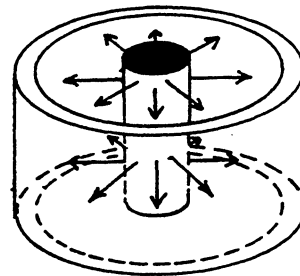

FIG. 1
2. Cut 7" diameter hole in top of cabinet for top connected conductor pipe installation as shown in Figures 1 and 3, or in back of cabinet for back connected conductor pipe installation, as shown in Figures 2 and 3. This hole is for easy connection of the conductor pipe for installation and service.
The inner cylinder of Fig.1 represents the heater and cathode. The outer cylinder represents the anode block and "vanes". Heating the cathode loosens the electron bonds, imposing high voltage between the cathode and anode causing electrons to migrate toward the anode.